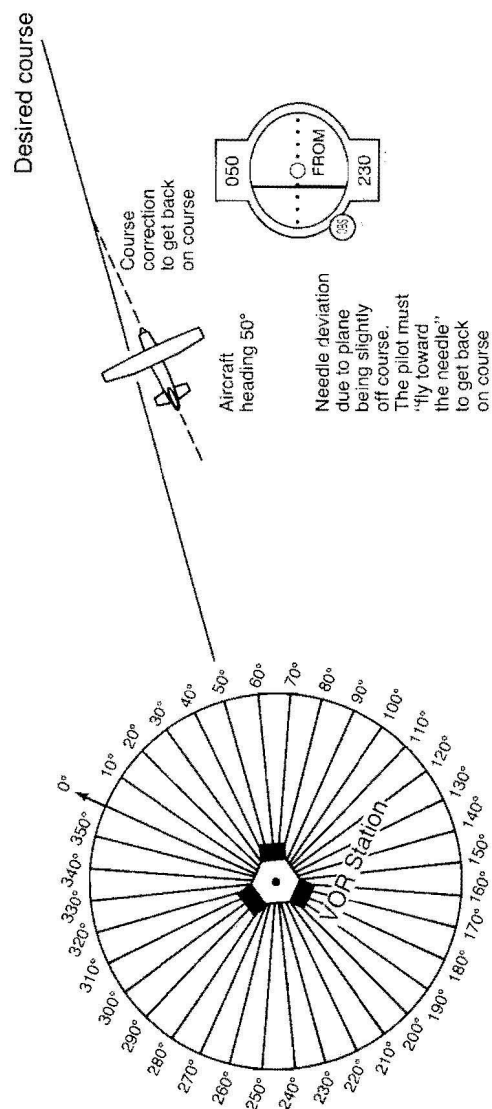

Figure 16. Flying from a VOR Station
1. Select a VOR station on the map and tune the NAV1 receiver to the station. Refer to Figure 16.